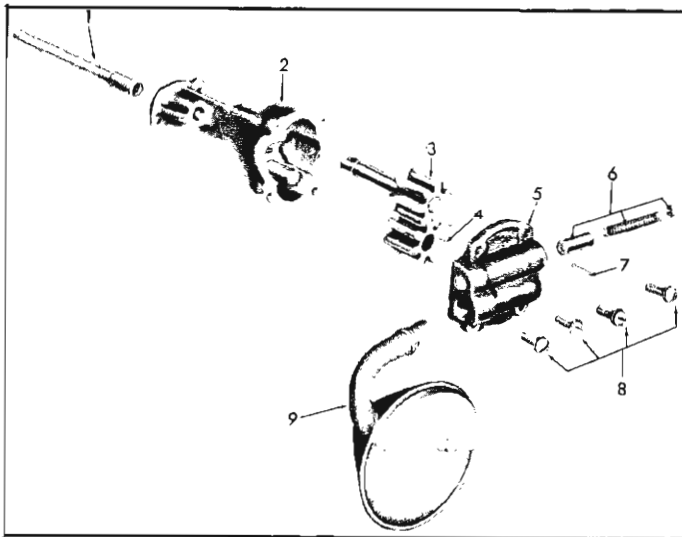

Fig. 139—Oil Pump Exploded
The oil pump (fig. 139) consists of two gears and a pressure relief valve enclosed in a two-piece housing and driven from the distributor drive which in turn is driven by a helical gear on the camshaft.
NOTE: The oil pump has a baffle incorporated on the intake pipe and screen assembly (9) shown in Figure 139. This baffle eliminates pressure loss due to sudden surging stops.